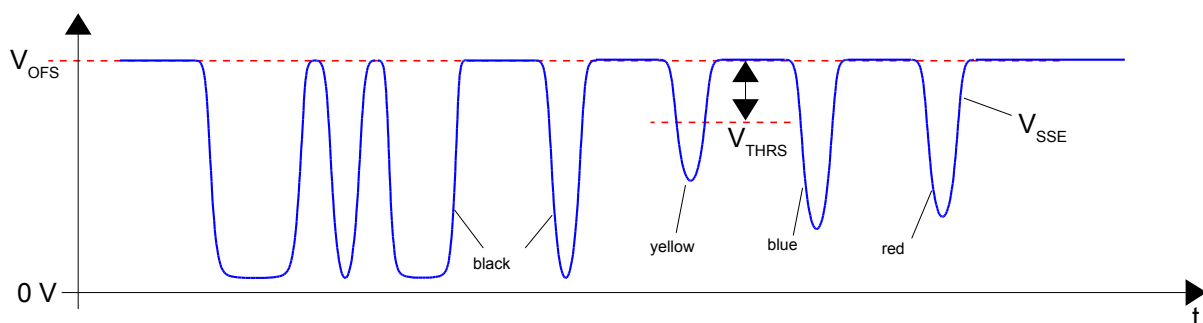

Figure 1.2: Sensor Signal (idealized)
The reflection of the radiated light generates a current signal which is transformed and evaluated by the integrated sensor electronics (see fig. 1.2, idealized signal). Also an external analog sensor (DS) can be connected for extended tasks of print mark detection.
V_{OFS} , V_{THRS} (fig. 1.2) and other parameters for different materials and print marks have to be configured.